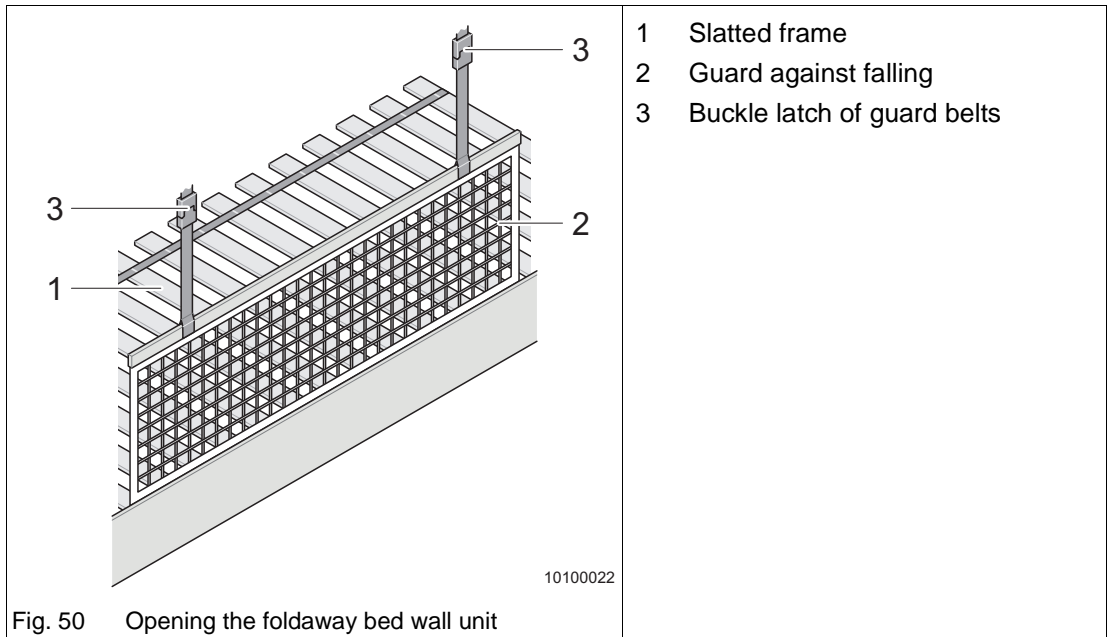

Fig. 50 Opening the foldaway bed wall unit
- ➔ Roll out the slatted frame (Fig. 50/1).
- ➔ Fix the guard against falling (Fig. 50/2) on the vehicle ceiling with the buckle latches (Fig. 50/3).